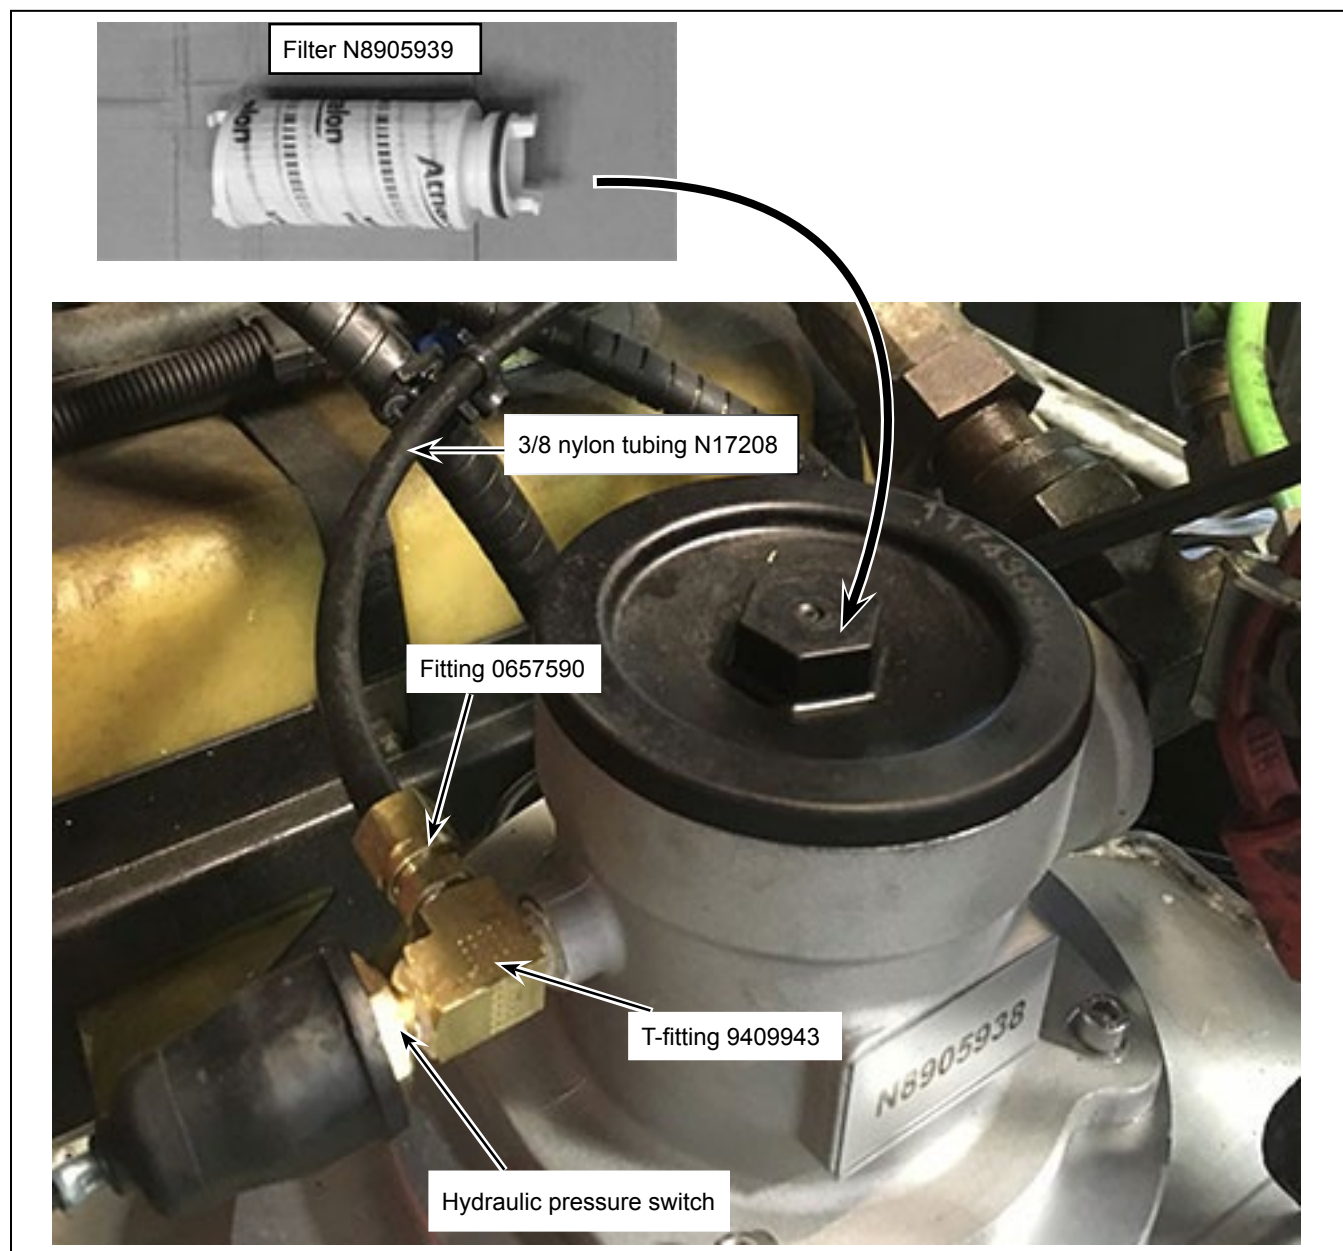

Figure 7 - T-fitting 9409943 Installed on Filter Head N8905938
- 1.28. Apply a thin coat of thread sealant on the new fitting 0657590 and install the fitting on the new 9409943 T-Fitting. See Figure 7.
- 1.29. Apply a thin coat of thread sealant on the retained hydraulic pressure switch and install the switch at the end of the 9409943 T-fitting. See Figure 7.
- 1.30. Apply a thin coat of thread sealant on the new 9409943 T-fitting and install the T-fitting on the filter head. See Figure 7.
- 1.31. Connect the new 3/8 nylon tube N17209 on the 0657590 fitting. See Figure 7.
- 1.32. Install the new filter N8905939 inside the new filter head N8905938 (both parts are included in the N8905966 kit). See Figure 7.
- 1.46. Install the retained quick disconnect fitting and dustcap on the 0443990 reducer fitting. See Figure 7.
- 1.47. Install a new 0657592 connector fitting on the back of the bulkhead fitting T0647. See Figure 7.
- 1.48. Connect the 3/8 nylon hose N17208 to the 0657592 connector fitting installed on the new plate N79775. See Figure 7 and 9.